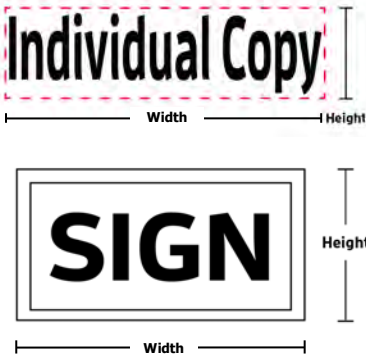

Figure 1: Individual Letters and Sign Faces
- 1) Single Sign Face. The area of a sign shall be computed by means of the smallest square, circle, rectangle, triangle, or geometric combination thereof that will encompass the extreme limits of the writing, representation, emblem, graphic, and/or other display, together with any material, backdrop, or structure on which it is placed. See Figure 1.
- 2) Multi-Faced Signs. In the case of a multi-faced sign only one side of the sign is considered in determining sign area if the sides of the sign are back-to-back or diverge at an angle of forty-five (45) degrees or less.